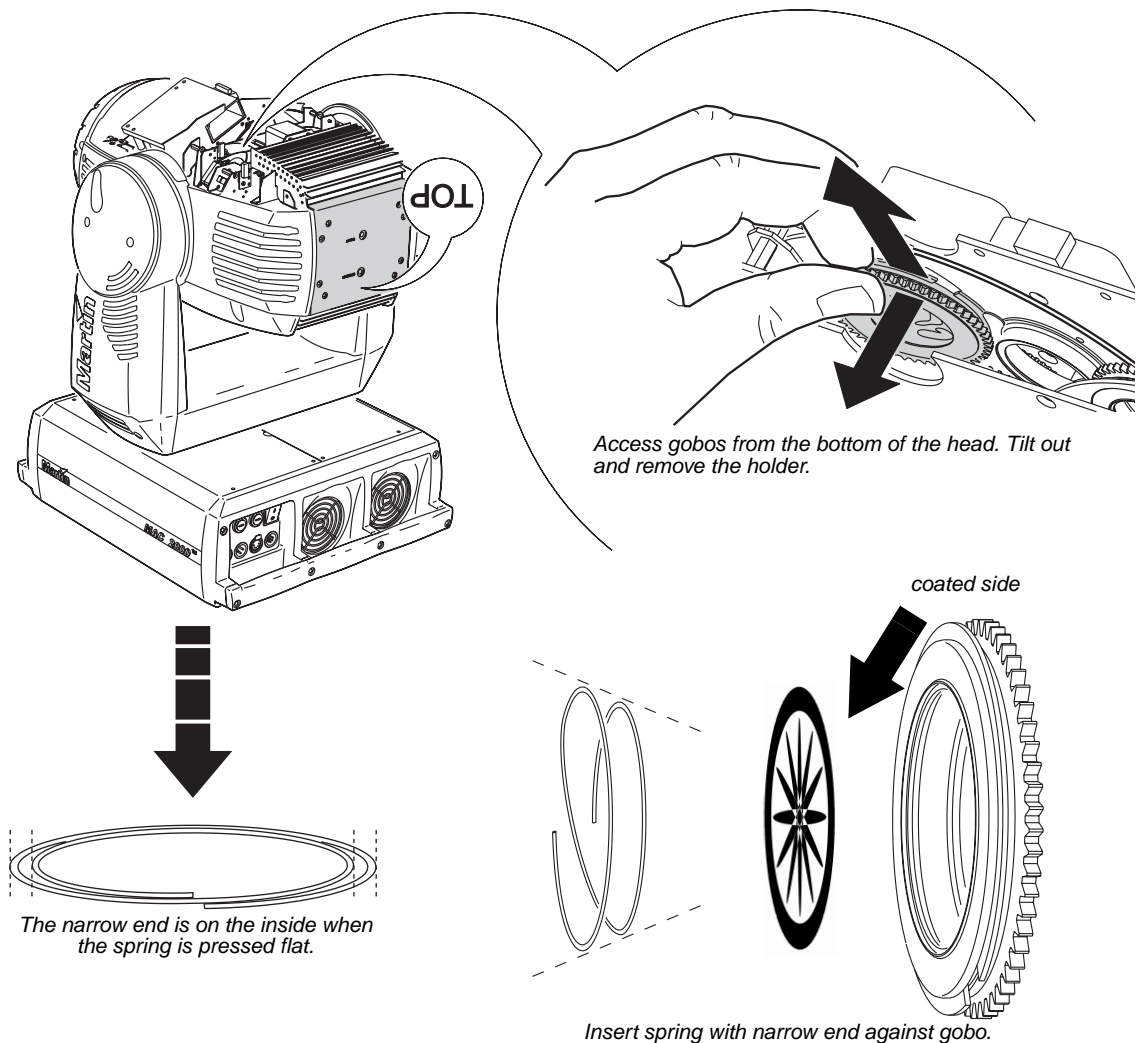

Figure 13: Replacing rotating gobos
- 2 See Figure 13. Lock the head in the upside down position and remove the bottom cover. Turn the gobo wheels as required to access the desired position. Pull the gobo holder away from the wheel slightly to release. Remove the gobo holder.